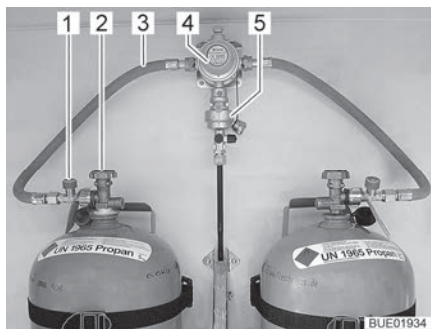
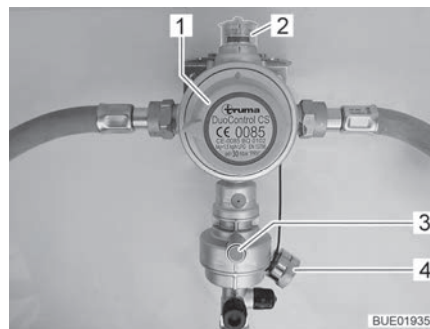

Fig. 43 Gas bottles with DuoControl
Fig. 44 DuoControl regulating system
The DuoControl regulating system consists of a reversing valve (Fig. 43,4) and a crash sensor (Fig. 43,5). The DuoControl regulating system is installed between the gas tubes (Fig. 43,3) with hose break guard (Fig. 43,1). The knob (Fig. 44,1) on the reversing valve is used to select which of the gas bottles is to be used as primary bottle and which is to be used as reserve bottle.
The status of the gas supply is indicated in the inspection window (Fig. 44,2):
The operation with only one gas bottle is allowed but in this case the open connection must be closed with a blind cover (Fig. 44,4).
The crash sensor blocks the gas supply in the event of a significant impact (e.g. accident). The crash sensor is put into operation with the green reset button (Fig. 44,3).
The hose break guard (Fig. 43,1) blocks the gas flow if the connected hose breaks. The hose break guard must be activated by pressing the green button.
At the operating unit (Fig. 45), the gas supply via the DuoControl regulating system is switched on and off. The regulator taps (Fig. 43,2) of the gas bottles and the gas isolator taps of the devices must be opened manually.
- Use the knob (Fig. 44,1) on the reversing valve to select the gas bottle which is to be the primary source of gas (primary bottle). Always turn the knob as far as it will go.
- Open regulator taps (Fig. 43,2) on the gas bottles.
- Press the green button of the hose break guard (Fig. 43,1). The green marking is shown in the inspection window (Fig. 44,2).
- Close regulator taps (Fig. 43,2) on the gas bottles.
If the green indicator lamp (Fig. 45,6) goes out during operation and the red indicator lamp (Fig. 45,5) lights up, the primary bottle is empty and must be changed. The red marking is shown in the inspection window (Fig. 44,2). The reserve bottle continues supplying the gas appliances with gas.
- Turn the knob (Fig. 44,1) a half turn in the direction of the currently used gas bottle. In this way, this gas bottle is the primary bottle now, and the empty gas bottle becomes the reserve bottle. The marking in the inspection window (Fig. 44,2) changes from red to green.
- Close regulator tap (Fig. 43,2) on the empty gas bottle. Pay attention to the direction of the arrow.
- Press the green button of the hose break guard (Fig. 43,1).